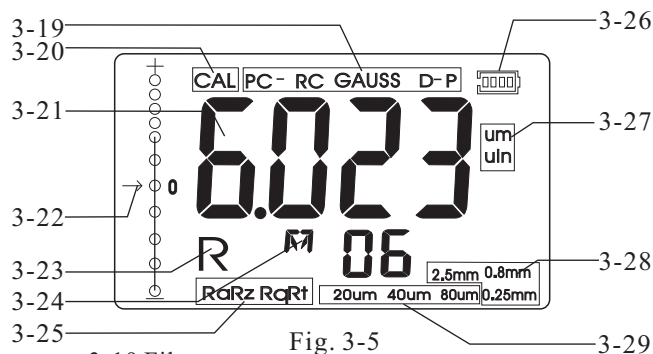

Fig. 3-5
- 7.2.1 Just depressing the key **DEL MENU** and not releasing it till 'FAC' on the Display. It is about 16 seconds from starting depressing key **DEL MENU**. This state is also marked by 'CAL', please see the Fig. 3-5.